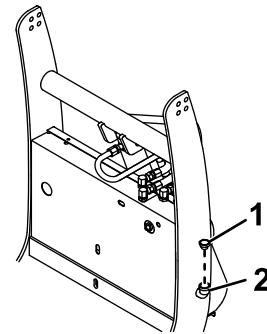

Figure 31
- Clean the area around the fill cap (Figure 31).
- Remove the fill cap from the hydraulic reservoir (Figure 31).
2. Clean the area around the fill cap (Figure 31).